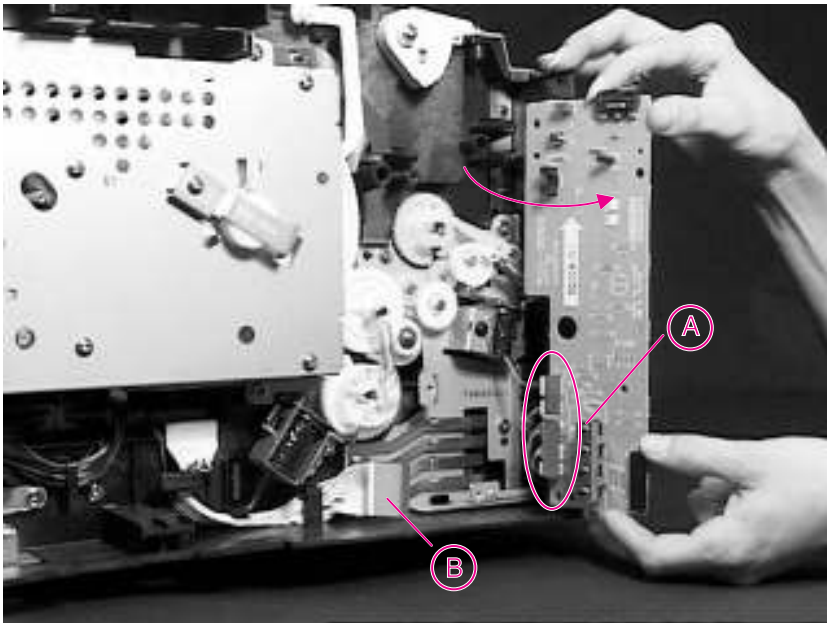

Figure 6-23 Paper Handling PCA
- 4 Rotate the PCA outward, and disconnect the five cables. See Figure 6-23.